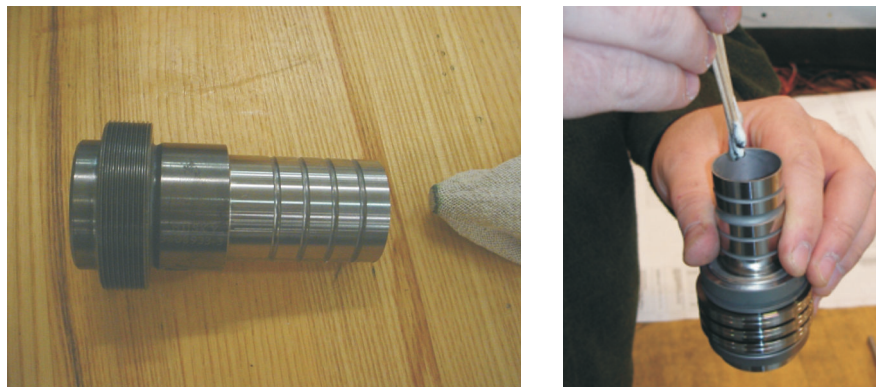

Figure 7-52: Cleaning the Nozzle
7. When lapping is completed, clean the lapping residue out of nozzle and valve stem using a rag, cotton swab and isopropyl alcohol or mold cleaner. Refer to Figure 7-52.